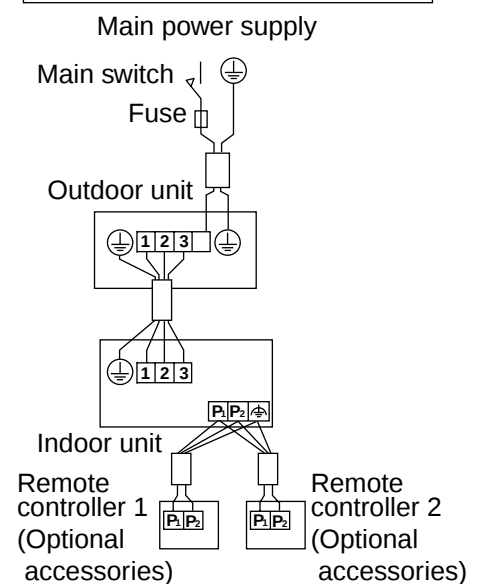

Fig. 28
- **2 remote controllers control** : 2 remote controllers control 1 indoor unit. **(Refer to Fig. 28)**